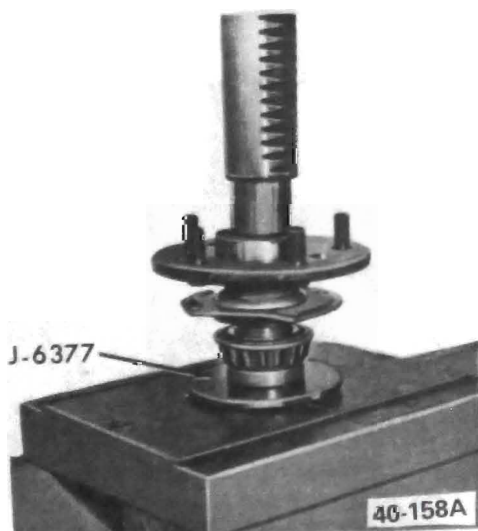

Figure 40-129A Installing Axle Shaft Bearing (Estate Wagons)
4. On Estate Wagons, install seal retainer plate and new seal on axle shaft. Press new bearing and retainer ring on axle shaft using Installer Plate J-6377. See figure 40-129A.